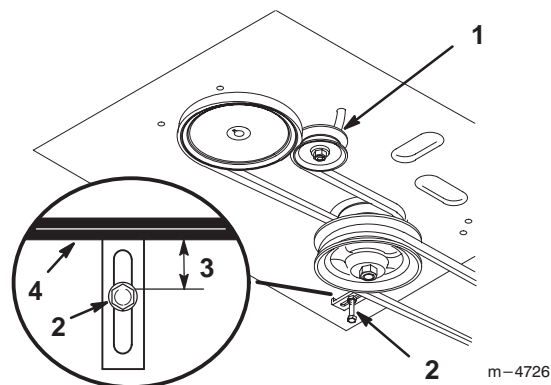

Figure 44
5. Install new belt around engine and drive pulleys (Fig. 44).
6. Slide idler pulley in engine frame to tension traction belt (Fig. 44).
8. Check the belt guide under the engine frame for proper adjustment (Fig. 44). The distance between the belt guide and mower belt should be 1-3/8" (35mm). Adjust as necessary. The disengaged belt should not drag or fall off pulley when guides are properly adjusted.
10. Check the belt guide under the engine frame for proper adjustment (Fig. 44). The distance between the belt guide and mower belt should be 1-3/8” (35mm). Adjust as necessary. The disengaged belt should not drag or fall off pulley when guides are properly adjusted.